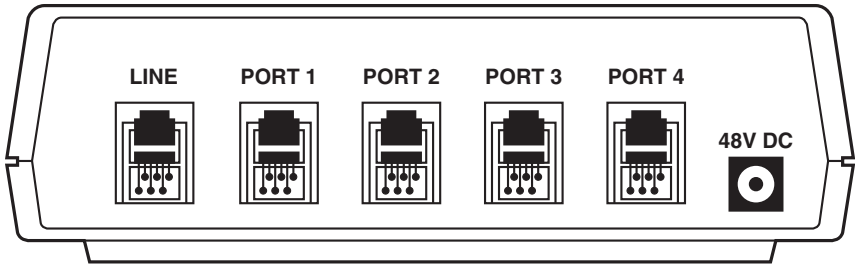

Figure 3-1. Modular Ports and Power Input Port on the Rear Panel of the Lineshare Pro.
The rear panel of the Lineshare Pro has five (5) modular ports and a power input port, as shown in **Figure 3-1**.